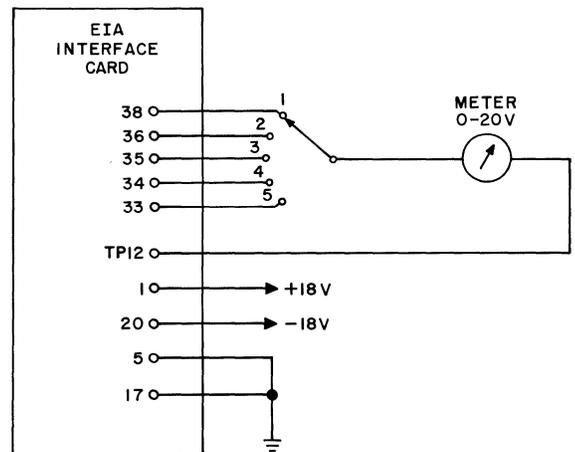

**Fig. 34 — EIA Interface Test**
- (a) With the card connected as in the suggested test circuit shown in Fig. 34, connect +6.0 ( $\pm 0.3$ ) volts dc to test point 8 of the card.